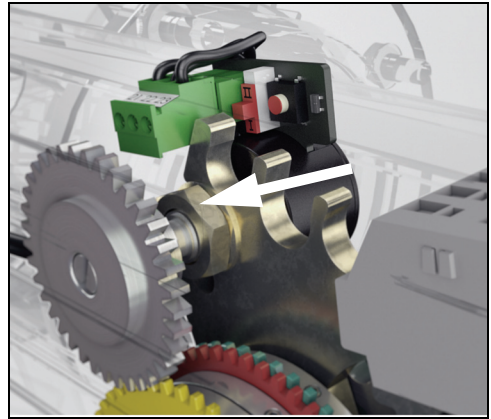

Fig. 23
- ▶ Tighten the nut with a fork wrench SW 0.55 in (14 mm) (see Fig. 23).